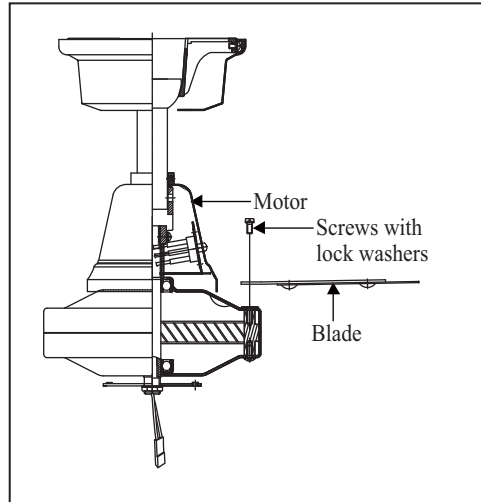

Figure 16
1. Align the holes from the blade to the holes from the motor, and secure the blade in place with screws and and lock wagher provided. (Fig. 16)